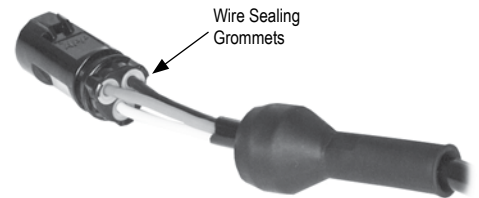

Figure 4
1. Wire sealing grommets should be slid along the wire into the back of the housing until the back of the seal is flush with the back of the connector (See Figure 4). Take care not to damage the wire sealing grommet when inserting them into the housing. Do not use any tools that could damage the seals (such as contact insertion tool or other sharp metallic objects).